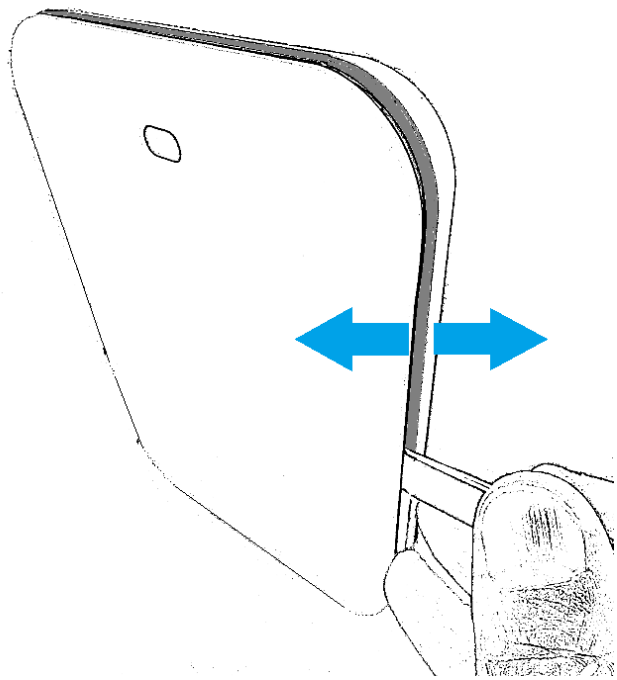

Fig. 3
2. Gently twist to detach the clips between the front part back part. (Fig. 3)